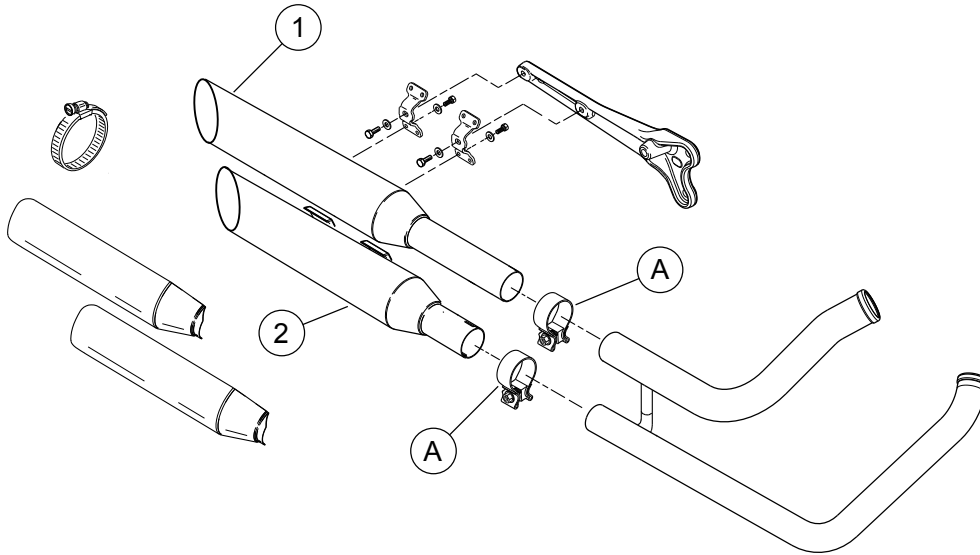

Figure 1. Service Parts: Shotgun Style Accessory Slip-On Muffler Kits
See Figure 1 and Table 1.
7. See Figure 1. Reuse fasteners and tighten **new** muffler clamps to 61–81.3 N·m (45–60 ft-lbs). Tighten screws and washers to 20.3–25.8 N·m (15–19 ft-lbs).